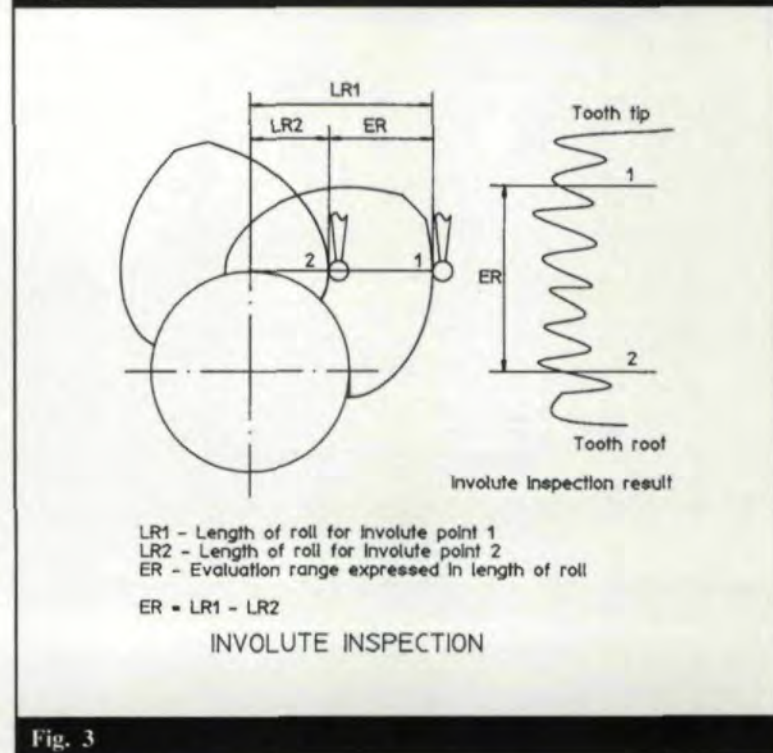

Fig. 3
calculated in Sub-step 1.2 for setting up an inspection machine. Inspect the gear involute and record slope error (Slope) and evaluation range (ER). The evaluation range is the length of roll for which slope error is observed (Fig. 3). Most inspection machines provide inspection results in a scale proportional to the length of roll, and this is the unit system that should be used. For instance, if the base circle diameter and evaluation range are in inches, then the slope error should be in inches as well. Depending on whether a material plus condition is closer to the root or tip